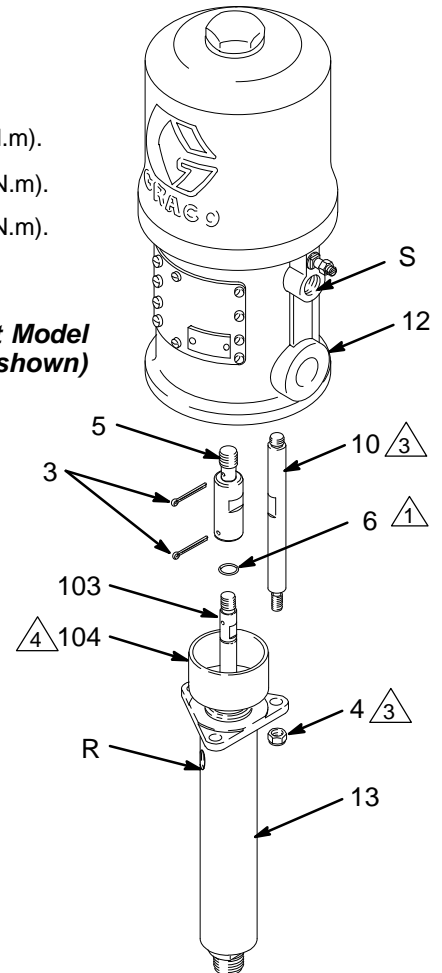

Fig. 3
Keep the packing nut/wet-cup (104) filled with Graco Throat Seal Liquid (TSL) or compatible solvent to help prolong the packing life. Ensure weekly that the packing nut is torqued to 18 to 20 ft-lb (24 to 27 N.m); do not overtighten it. See Fig. 3 on page 11. Relieve the pressure before adjusting the packing nut or adding TSL.
2. Disconnect the air and fluid hoses. Remove the pump from its mounting. Note the relative position of the fluid outlet (R) to the air inlet (S). See Fig. 3.
3. Unscrew the tie rod locknuts (4) from the tie rods (10). Remove the cotter pin (3). Carefully pull the displacement pump (13) off the air motor (12). Unscrew the displacement rod (103) from the air motor (12) or adapter (5, President Pump only). Inspect the o-ring (6).
1. Lubricate the o-ring (6) and check that it is in place on the displacement rod (103).
2. Orient the fluid outlet (R) to the air inlet (S) as noted in step 2 under **Disconnecting the Displacement Pump**. Position the displacement pump (13) on the tie rods (10). See Fig. 3.
3. Screw the displacement rod (103) into the shaft of the air motor (12) or the adapter (5, President Pump only) until the pin holes are aligned. Screw the locknuts (4) onto the tie rods (10) loosely. Install the cotter pin (3).
4. Mount the pump and reconnect all hoses. Reconnect the ground wire if it was disconnected during repair. Torque the packing nut (104) to 18 to 20 ft-lb (24 to 27 N.m). Fill the wet-cup with Graco Throat Seal Liquid or compatible solvent.
5. Tighten the tie rod locknuts (4) evenly, and torque as specified in Fig. 3. Start the pump and run it at about 40 psi (0.28 MPa, 2.8 bar) air pressure, to check that it is operating properly.